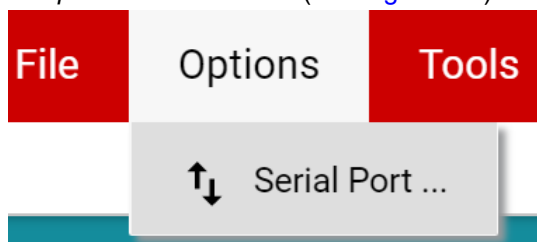

Figure 3-9. Change Serial Port
- a. If *Hardware Connected* does not show in the bottom-left hand corner of the GUI, check different hardware COM ports under *Options* → *Serial Port* (see Figure 3-9).